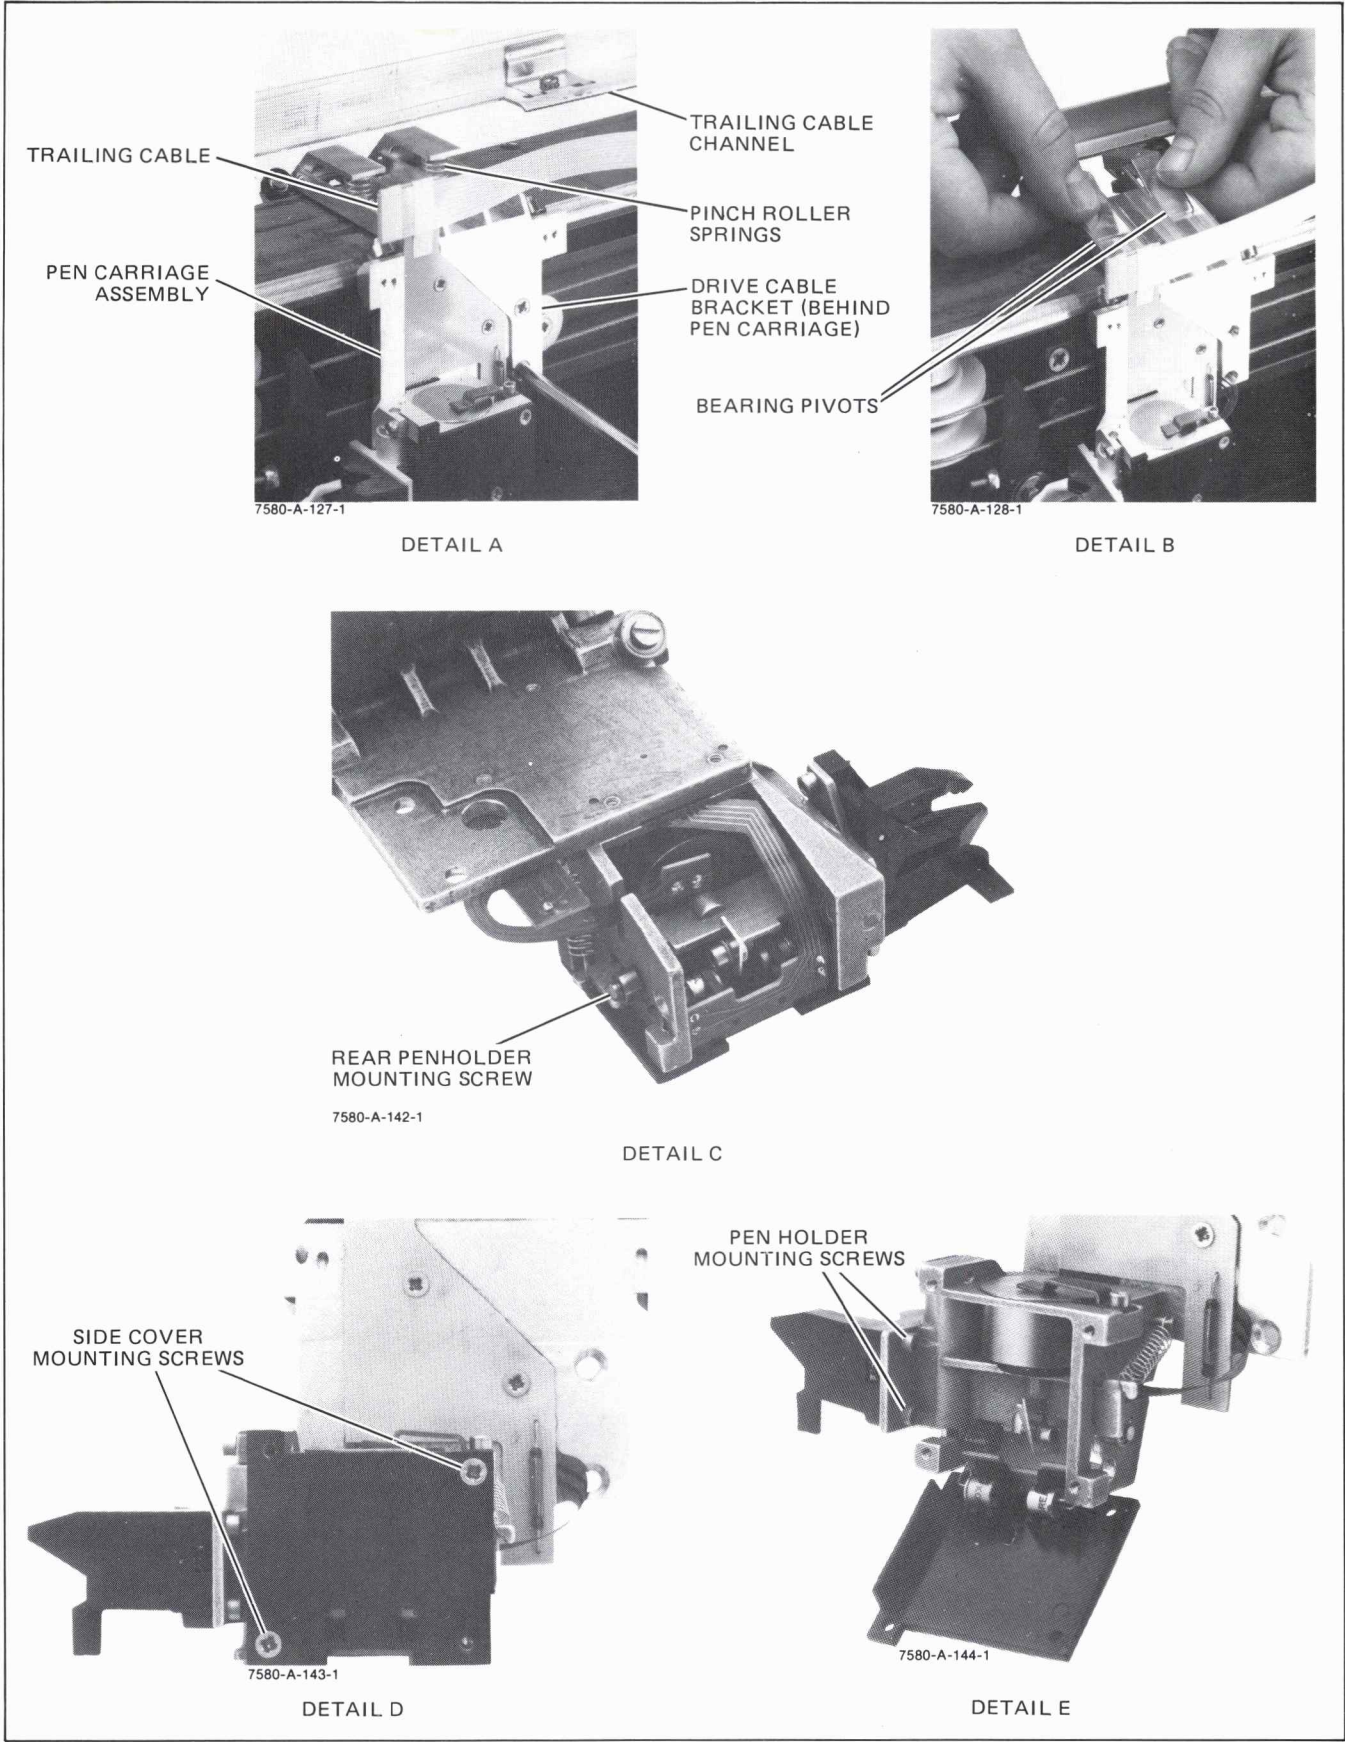

Figure 3-16. Pen Holder Adjustment
- i. Remove the two screws securing the pen carriage to the drive cable bracket. See Figure 3-16, Detail A.
- j. Compress the two pinch roller springs which apply pressure to the two bearing pivots on top of the carriage. See Figure 3-16, Detail B. Rotate the carriage forward and off the Y-arm.
- k. Loosen the rear pen holder mounting screw. See Figure 3-16, Detail C.
- l. Remove the two screws securing the side cover of the pen carriage. See Figure 3-16, Detail D. Carefully separate the side cover from the pen carriage so as to avoid damaging the flex cable. Do not disturb the alignment of the pen lift photo sensors and flag mechanism.
- m. Loosen the two remaining pen holder mounting screws. See Figure 3-16, Detail E.